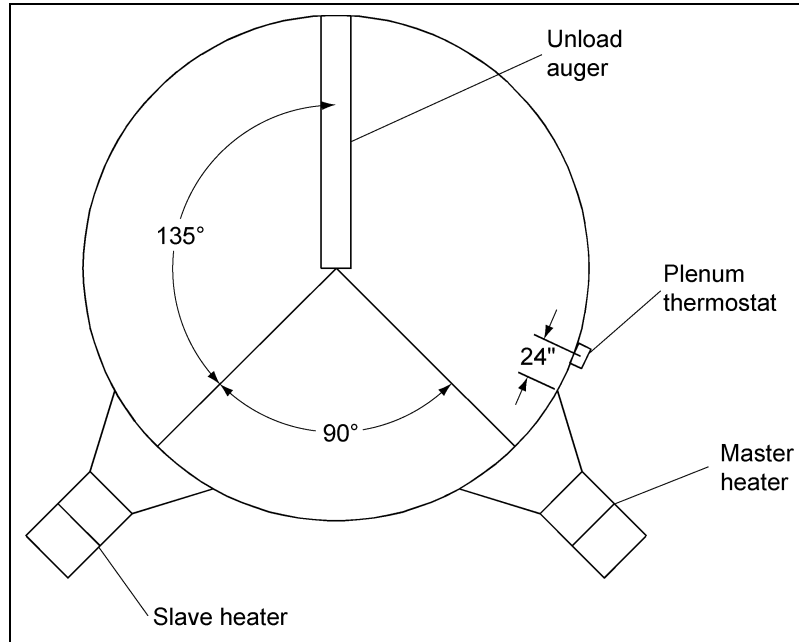

Figure 3C
IMPORTANT: When mounting two (2) heaters on a bin it is imperative that they be situated as in Figure 3C. Plenum thermostat must be to the right of master heater and master heater must be to the right of slave heater.